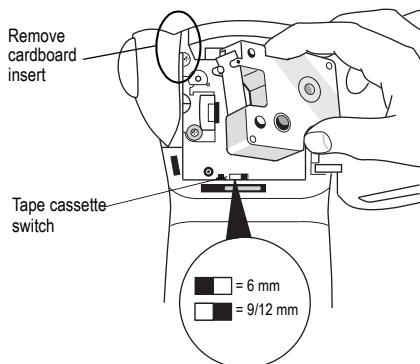

Figure 4
2. Make sure that the tape cassette switch is set to 9/12 mm. See Figure 4. A notch in the cassette fits over the switch when the cassette is in the correct position.
The first time you use the printer, remove the protective cardboard insert from between the print head and pinch roller. See Figure 4.